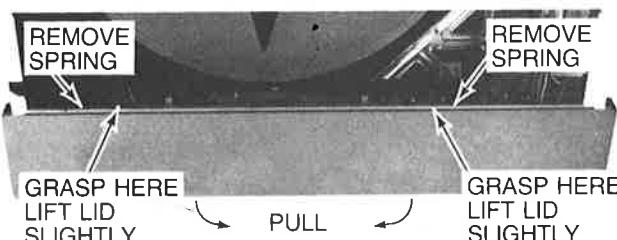

Fig. 9—Door Push Rod Spring
- With cabinet top removed and player in "Play" mode—remove AC cord from power source. Use needle nose pliers and carefully remove door push rod spring from front receiver pad (left and right sides) Fig. 9.